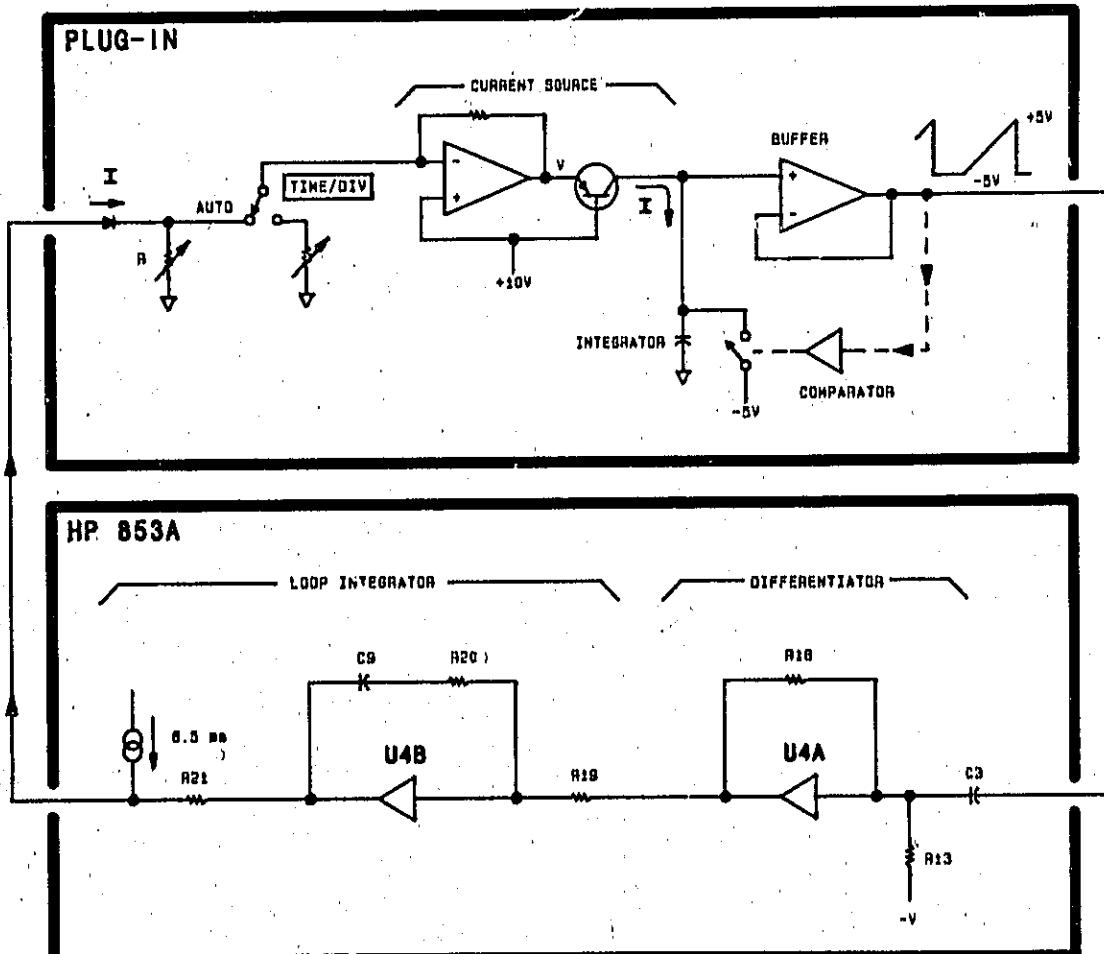

Figure 8-44. Automatic Sweep Time Limiter
Figure 8-44 illustrates how the basic sweep circuitry in the plug-in and the AST limiter circuitry interact. In the plug-in, a current source feeds an integrating capacitor, forming a ramp. When the ramp voltage has increased to +5V, a comparator triggers a switch to reset the integrating capacitor to -5V and the cycle repeats. The value of the current source is proportional to the slope of the sweep voltage waveform. When AUTO TIME/DIV is selected, the current source is varied by both the plug-in and Interface Assembly A9. The plug-in varies the current source with resistors (R), according to plug-in, front-panel control settings. The Interface Assembly varies the current source with feedback current IFB.